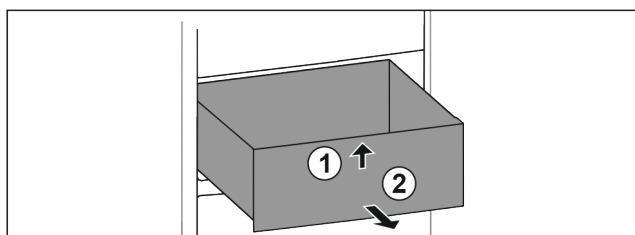

Fig. 13
- ▶ Lift at the front Fig. 13 (1).
- ▶ Remove to the front Fig. 13 (2).